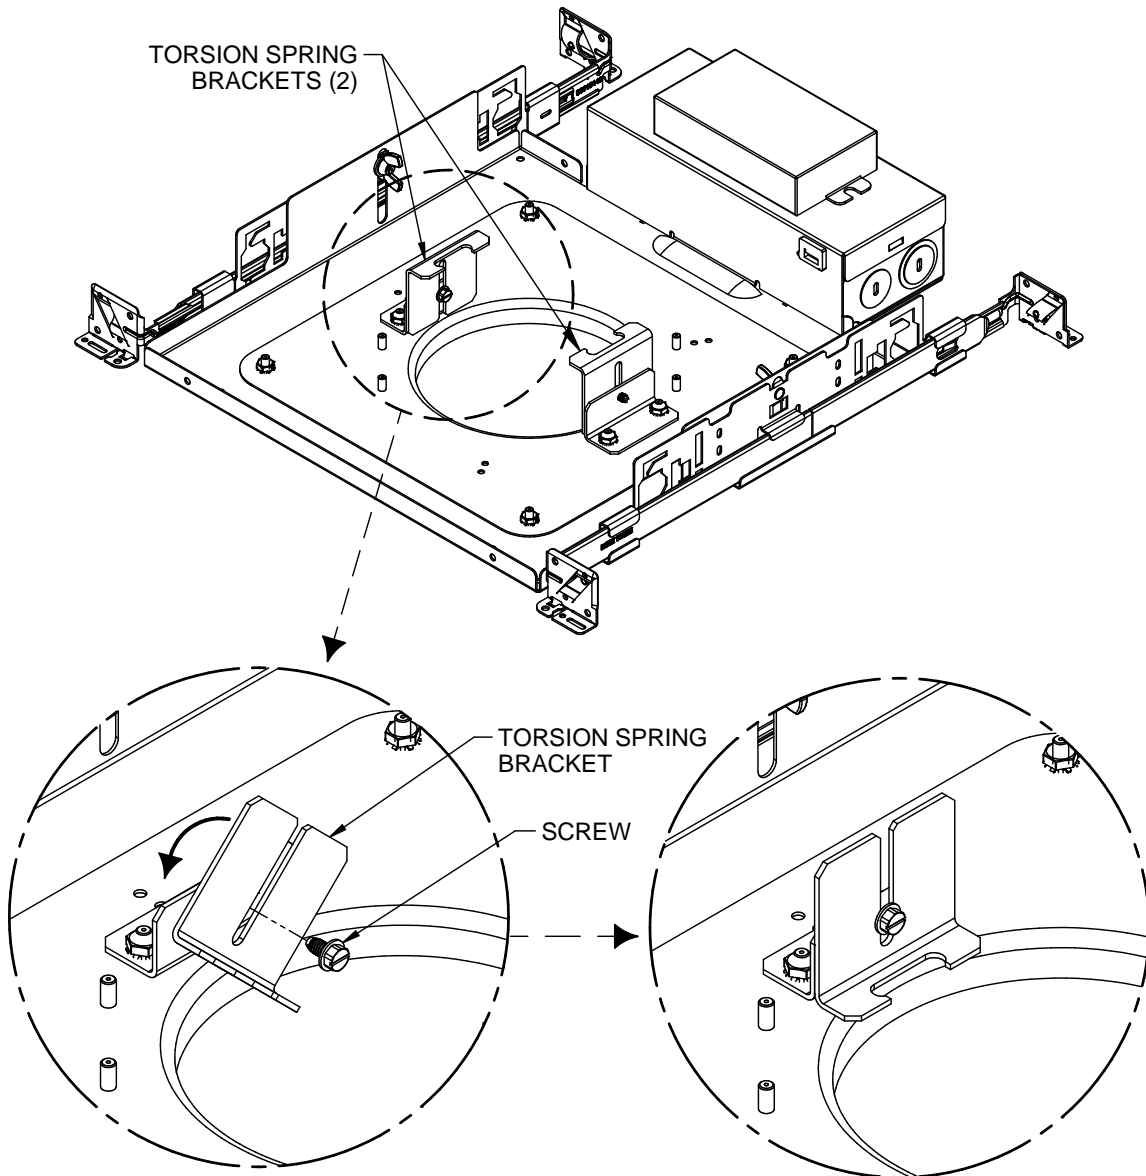

Figure 5
^^ To flip the (2) torsion spring brackets on frame as may be required for proper SCA installation see instructions and "Figure 5" below.
- Remove the screw holding the torsion spring bracket as shown in "Figure 5"
- Rotate torsion spring bracket 90 degrees and re-position as shown in "Figure 5"
- Re-install the screw to hold the torsion spring bracket in place as shown in "Figure 5"